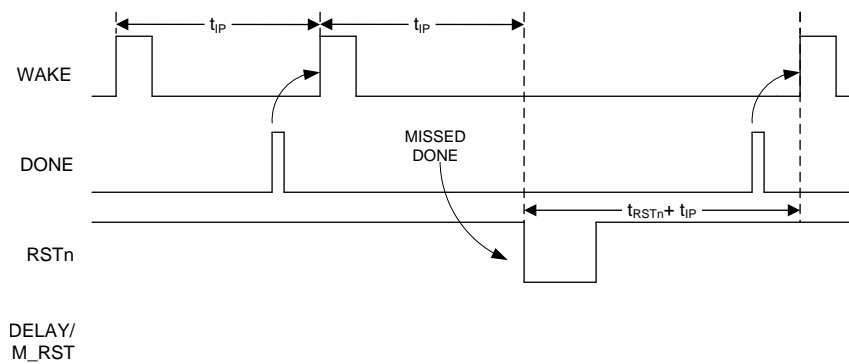
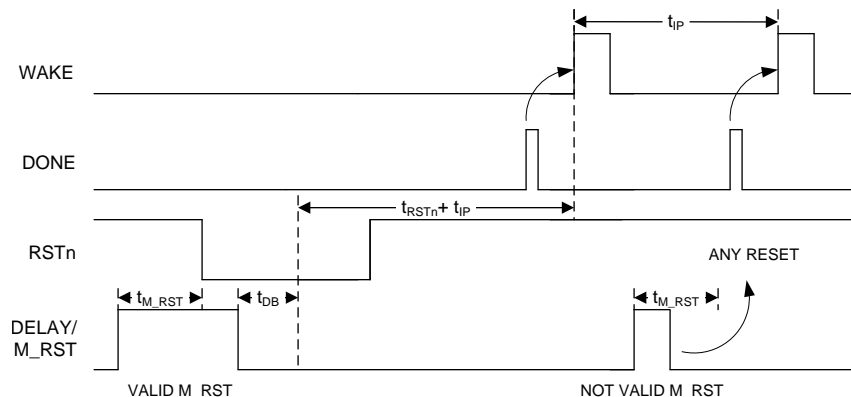

Figure 8. Watchdog
Figure 10. Manual Reset
2. At the beginning of a new time interval if DONE is not received at least 20 ms before the next WAKE rising edge (see Figure 8).
During normal operating mode, the TPL5010 asserts periodic WAKE pulses in response to valid DONE pulses from the μC . If either a manual reset is applied (logic HIGH on DELAY/M_RST pin), or the μC does not issue a DONE pulse within the required time, the TPL5010 asserts the RSTn signal to the μC and restarts its internal counters. See Figure 8 and Figure 10.